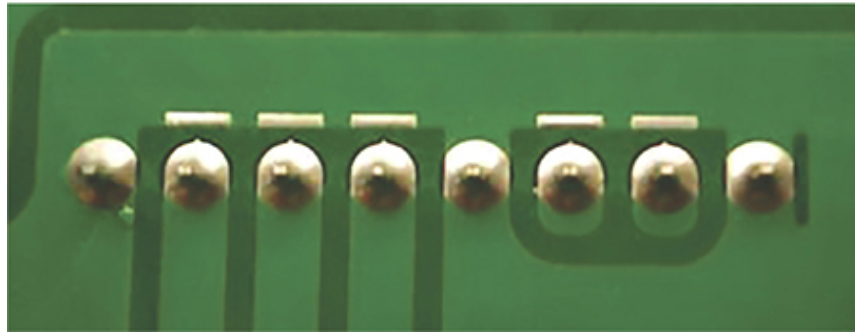

Figure 3-11: A spark gap on a connector
*Spark gaps* are often used to shunt very high voltages too. A spark gap can be implemented on a PCB by pulling back solder mask around a small area of ground plane. You can see an example of this in Figure 3-11. The trace running across the top of the board is ground, and there are tiny